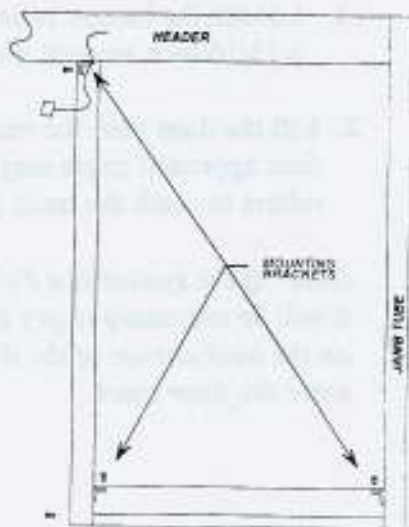

Figure 22
5. Install the wires into the connector (See Figure 22).